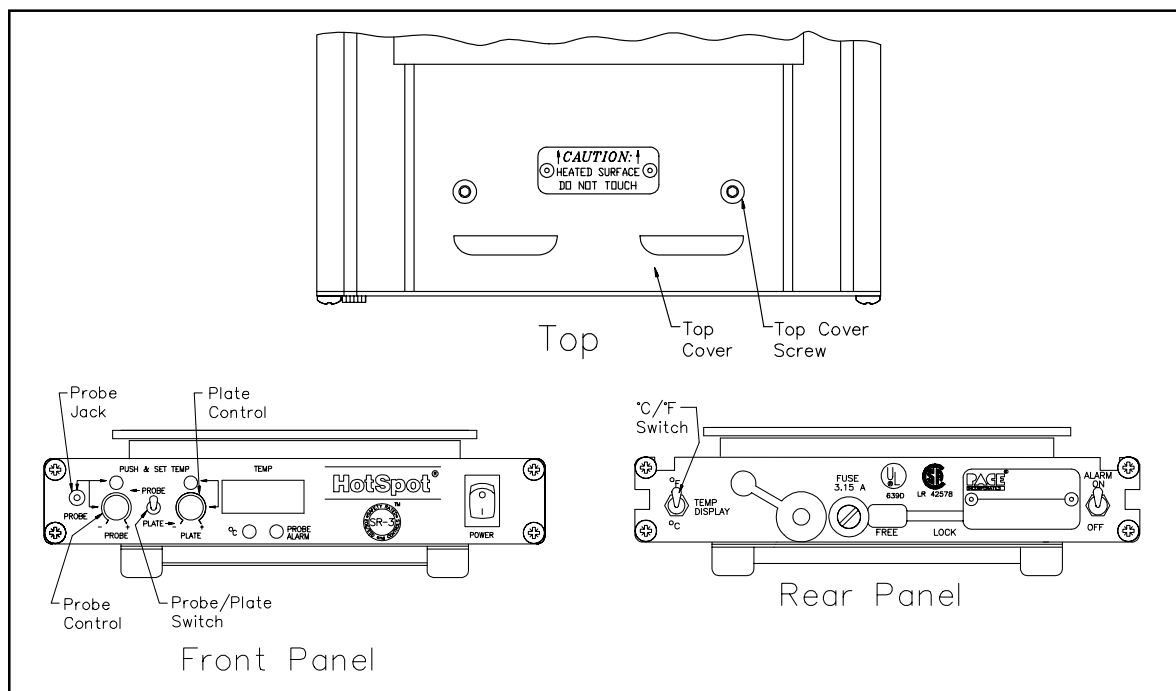

Figure 7. HS 150 Parts Identification
5. Turn the Plate Control and Probe Control knobs on the front panel completely counter clockwise (refer to Figure 7).
9. Position the Probe/Plate Switch to "Plate" (refer to Figure 7).
10. Position the °C/°F Switch to °C (refer to Figure 7).
22. Verify that the Plate Control and Probe Control knobs on the front panel are completely counter clockwise (refer to Figure 7).
23. Using a 3.5 mm plug, connect a 177.47 ohm resistance into the probe jack (refer to Figure 7). Monitor the voltage across the resistance, center conductor with respect to the ground conductor. This voltage will be called V2.